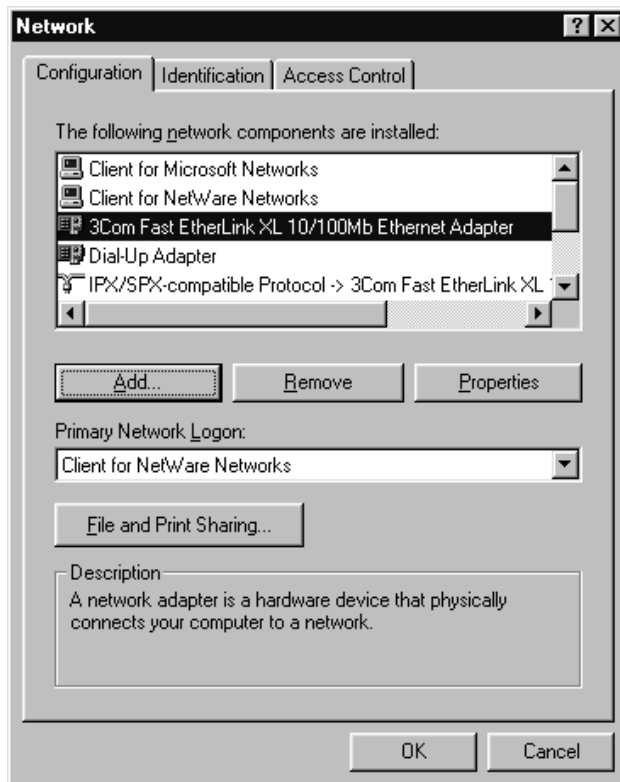

Figure 2.1 Sample Installed Network Adapter
2. On the **Configuration** section of the Network panel (see Figure 2.1), verify that the network adapter (e.g. 3Com Etherlink III) is displayed in the list of installed network components. If the network adapter is not installed, install the network adapter as follows: